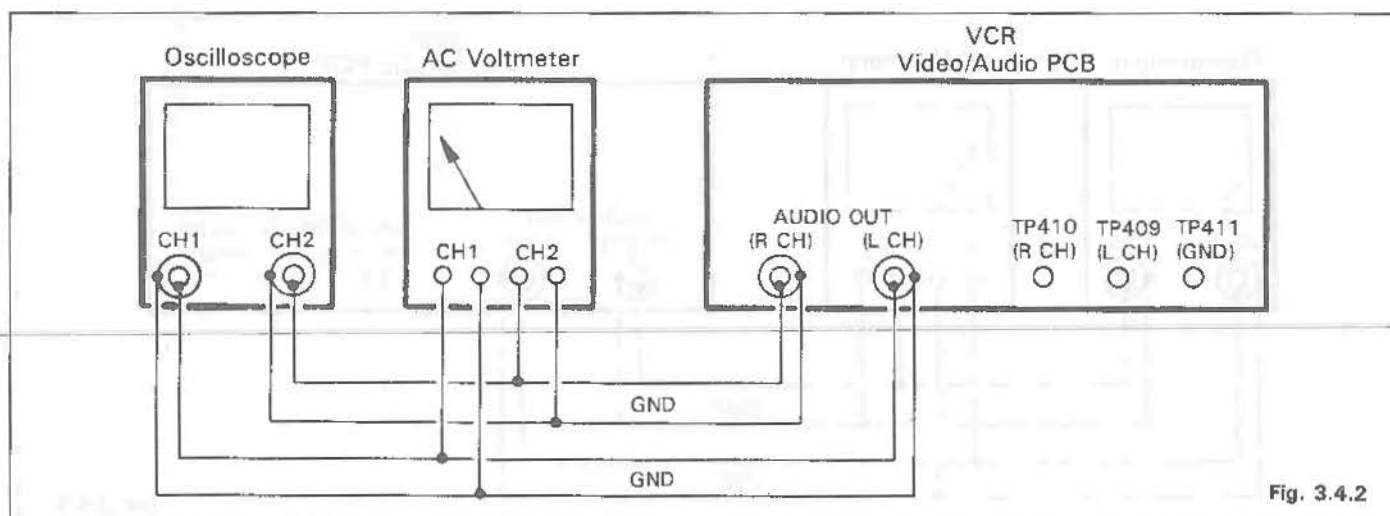
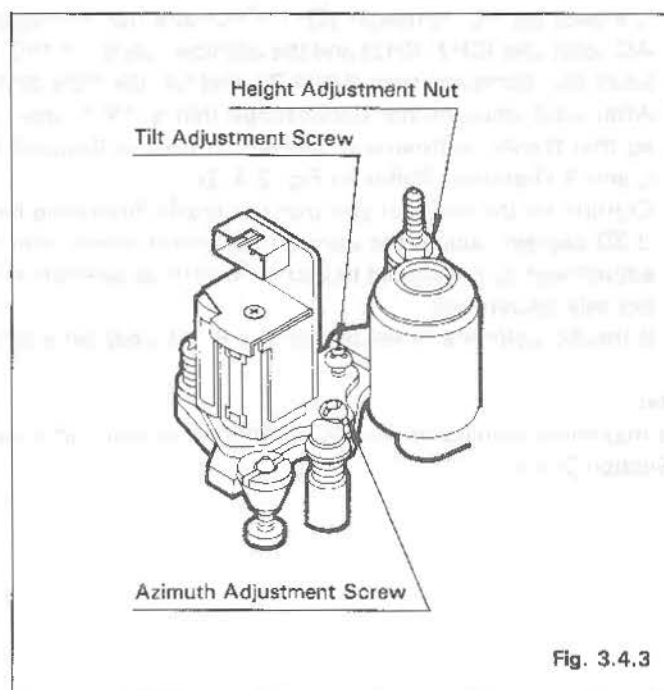
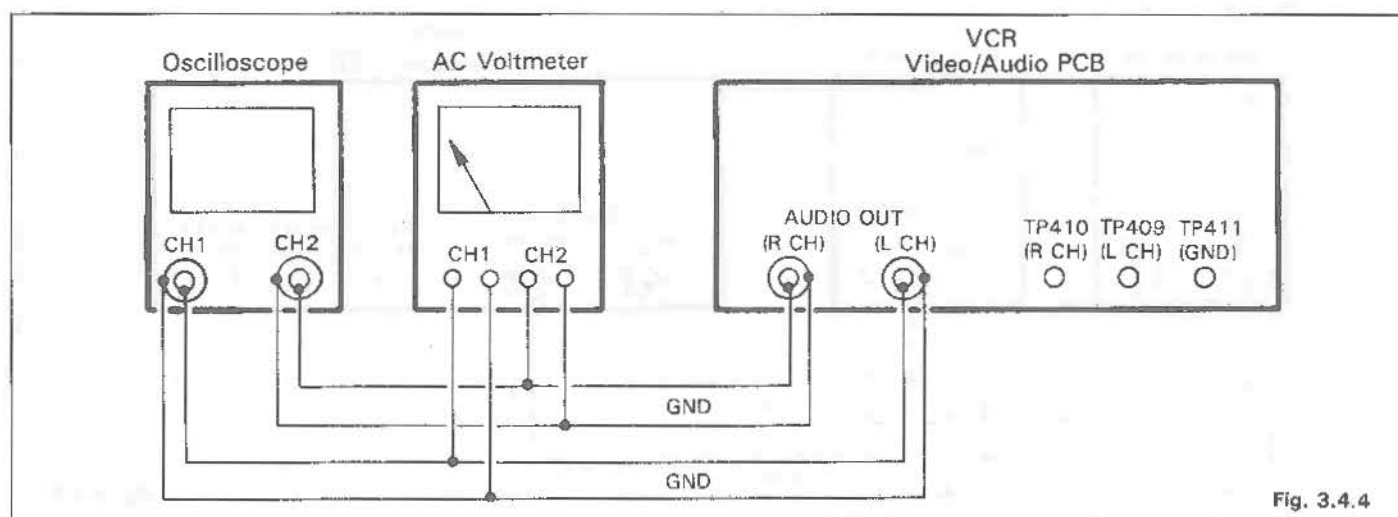

Fig. 3.4.2
Fig. 3.4.3
Fig. 3.4.4
1. Connect the AC voltmeter (CH1, CH2) and the oscilloscope to the AUDIO OUTPUT terminals (L, R), or connect the AC voltmeter (CH1, CH2) and the oscilloscope to TP409 (L CH), TP410 (R CH) and TP411 (GND). (Refer to Fig. 3.4.2)
2. Load the alignment tape (VNC-1), and set the VCR to the PLAY (SP) mode.
4. After confirming on the oscilloscope that a 1 kHz sine wave is being output, adjust the height adjustment nut so that the AC voltmeter's readings are brought to their maximum levels on both the L and R channels. (Refer to Fig. 3.4.3)
6. Adjust the azimuth adjustment screw so that the AC voltmeter's readings are brought to their maximum levels on both the L and R channels. (Refer to Fig. 3.4.3)
1. Connect the AC voltmeter (CH1, CH2) and the oscilloscope to the AUDIO OUTPUT terminals (L, R), or connect the AC voltmeter (CH1, CH2) and the oscilloscope to TP409 (L CH), TP410 (R CH) and TP411 (GND). (Refer to Fig. 3.4.4)
2. Load the alignment tape (VNM-7), and set the VCR to the PLAY (SP) mode.
3. After confirming on the oscilloscope that a 7 kHz sine wave is being output, adjust the azimuth adjustment screw so that the AC voltmeter's readings or the oscilloscope waveform are brought to their maximum levels on both the L and R channels. (Refer to Fig. 3.4.3)